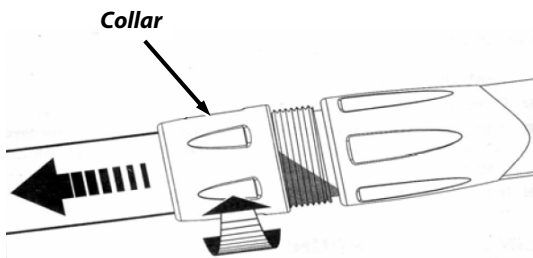

Figure 9
1. Rotate the collar counterclockwise to loosen (Figure 9).